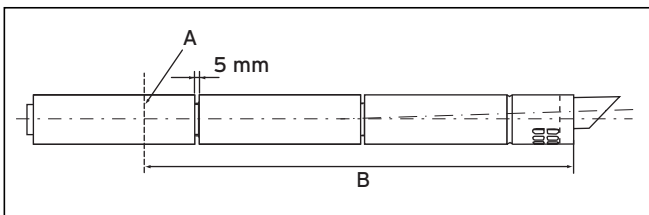

Fig. 3.10 Air duct
- For ease of measuring and marking the air/flue duct extensions, assemble them loosely together with the air/flue duct and terminal assembly as shown (fig. 3.10).